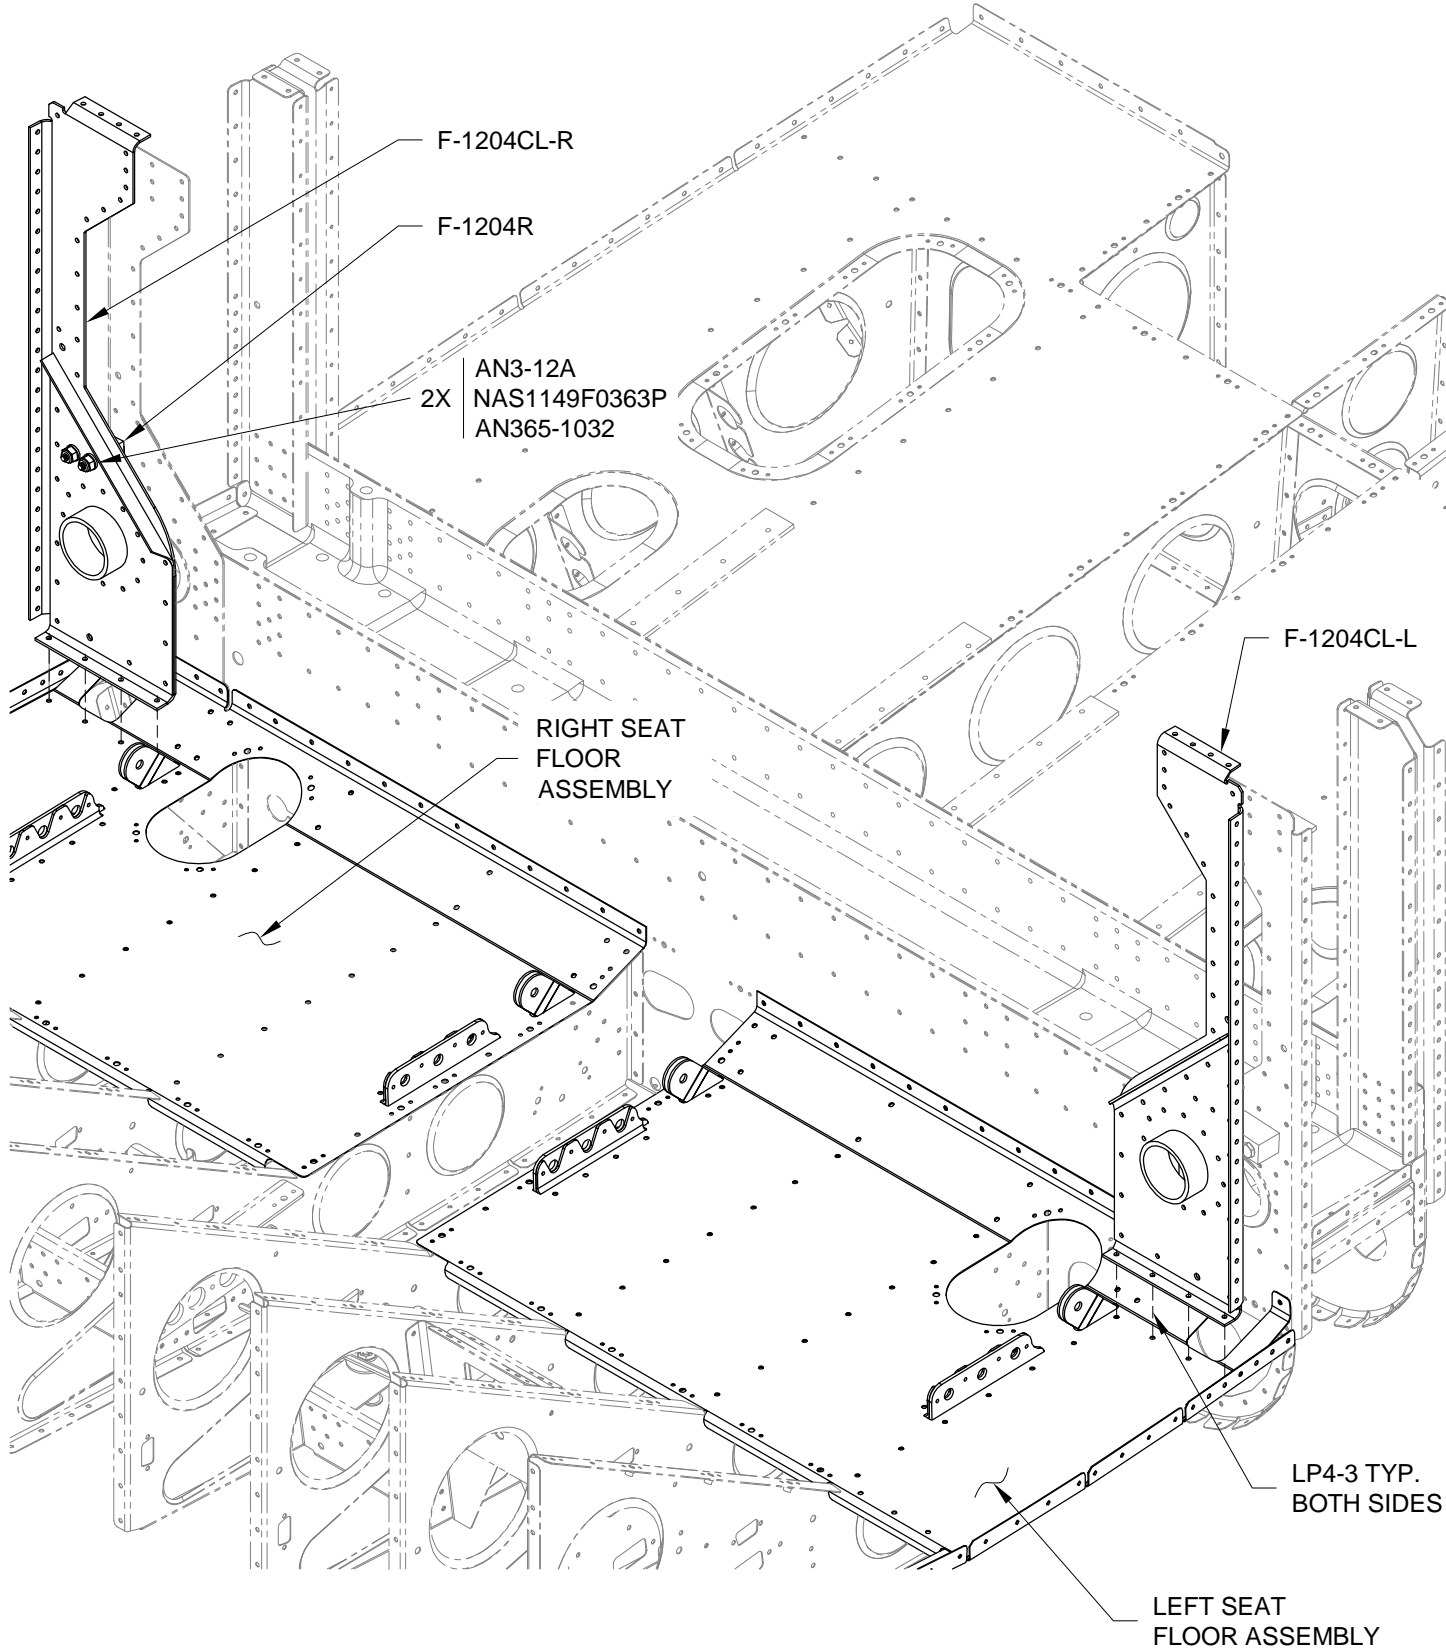

FIGURE 1: RIVETING F-1204CL-L & -R
- Rivet F-1204CL-R to the Right Seat Floor Assembly using the rivets called out in Figure1.